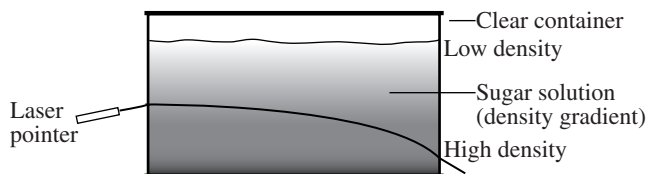

Figure 1.
6. After the first day, test the density distribution by shining the laser into the water at a slight upward angle. Shine the laser near the bottom of the container where the density will be greatest. If a density gradient has been established, the laser beam will bend down toward the bottom of the container (see Figure 1).